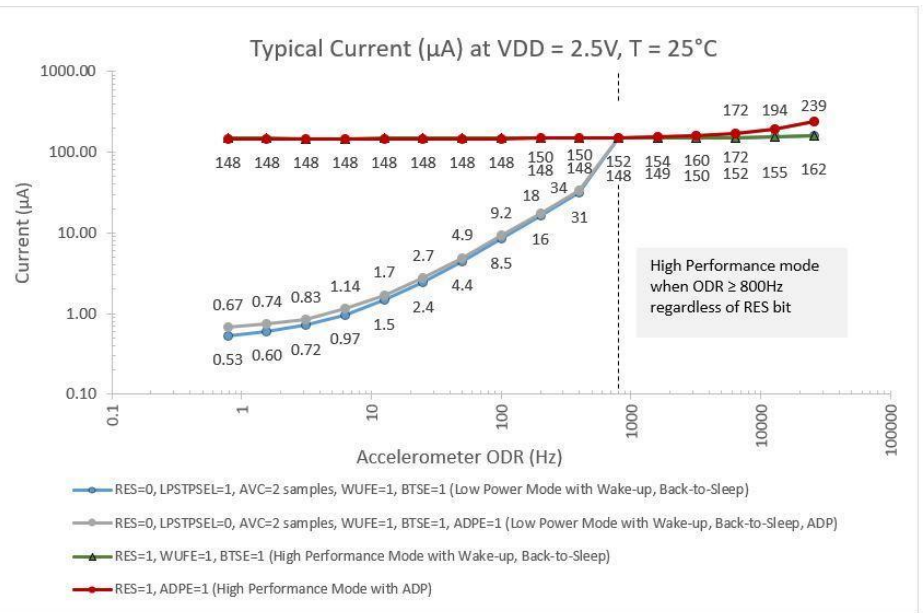

Figure 2: Current as a function of Output Data Rate (ODR) and Power Mode Settings
- Current varies with Output Data Rate (ODR) as shown in Figure 2, types and number of enabled digital engines, the average filter control settings, and VDD. Measured with OWUF<2:0> = 0, OSA<3:0> = 0, AVC<2:0> = 1, LPSTPSEL = 1.